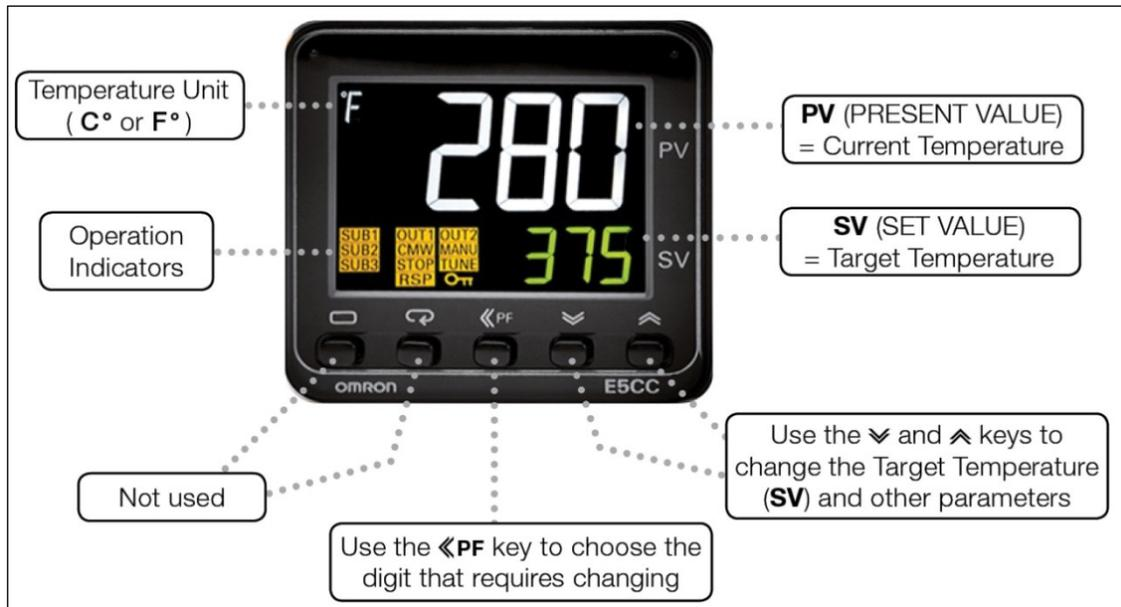

Figure 1.2, Temperature controller
3. Turn on the main circuit breaker on the back of the heater head (1) **POWER LIGHT** will turn on).
4. Turn on the (2) **FRYER HEAT** switch (the temperature controller will turn on).
5. Set the (2) **TEMPERATURE CONTROL** to the target frying temperature (See Figure 1.2) (**TEMPERATURE CONTROL** light will turn on when fryer is heating).
6. Set (3) **FRYER CONVEYOR** switch to **AUTO** (the conveyor will start automatically when the target temperature is reached).